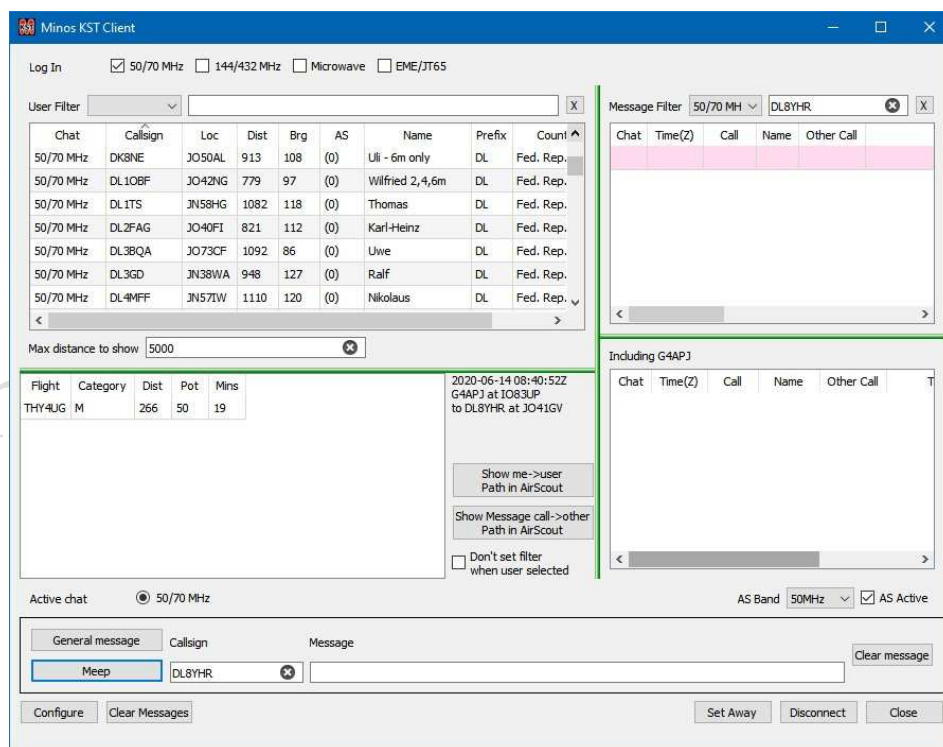

Figure 139 – Airscout operational in KST Client
Once the connection is established¹⁴⁰ additional information (AS) is displayed in the User panel (on the left), and a new panel appears bottom left (Figure 139).